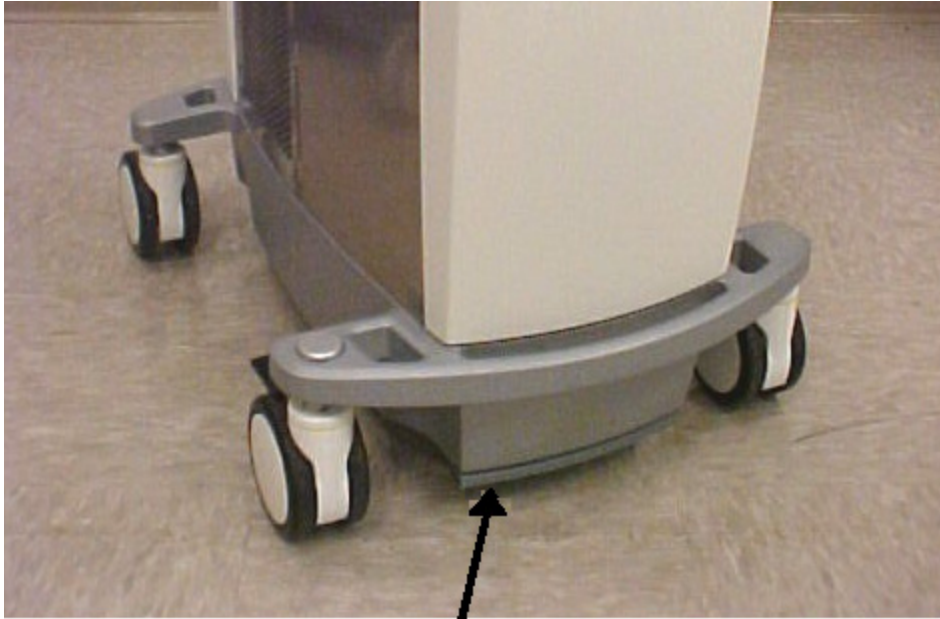

Figure 7.1. Location of Condensate Pan (see arrow).
4. Slide out and remove the condensate collection pan from under the front of the console (see Figure 7.1).